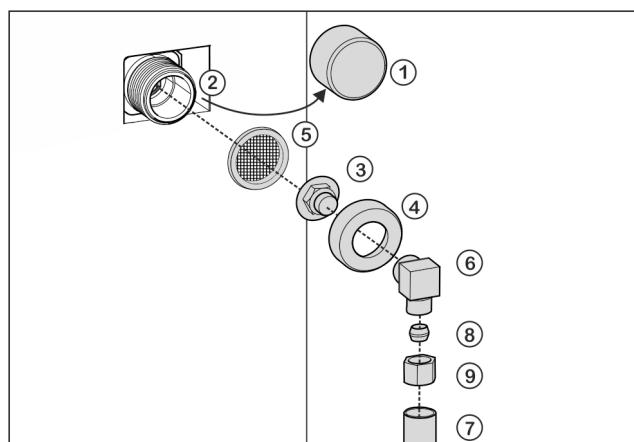

Fig. 28
- Remove cap Fig. 28 (1) from solenoid valve Fig. 28 (2).
- Insert coupler Fig. 28 (3) into union nut Fig. 28 (4).
- Insert the filter Fig. 28 (5) with the recess pointing down towards the coupler Fig. 28 (3).
- Screw the union nut Fig. 28 (4) by hand onto the thread of the solenoid valve Fig. 28 (2) until it is firmly in place.
- Screw on angle piece Fig. 28 (6).
- Connect the water pipe Fig. 28 (7) (e. g. 1/4" OD copper pipe) with the clamp ring Fig. 28 (8) and nut Fig. 28 (9) to the elbow connector Fig. 28 (6).
- If necessary: Fasten the water pipe Fig. 28 (7) to the housing with the guide clip.
- Put angle piece Fig. 28 (6) to one side.
- Connect the water pipe Fig. 28 (7) (e. g. 1/4" OD copper pipe) with the clamp ring Fig. 28 (8) and nut Fig. 28 (9) to the coupler Fig. 28 (3).